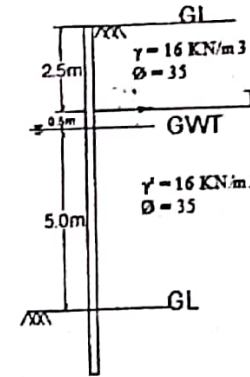

Fig. 5(c)
- (3) Determine the depth of embedment of the anchored sheet pile shown in Fig. 5(c). Also determine the force in the anchor per metre of the wall. Assume free-earth support condition. 8